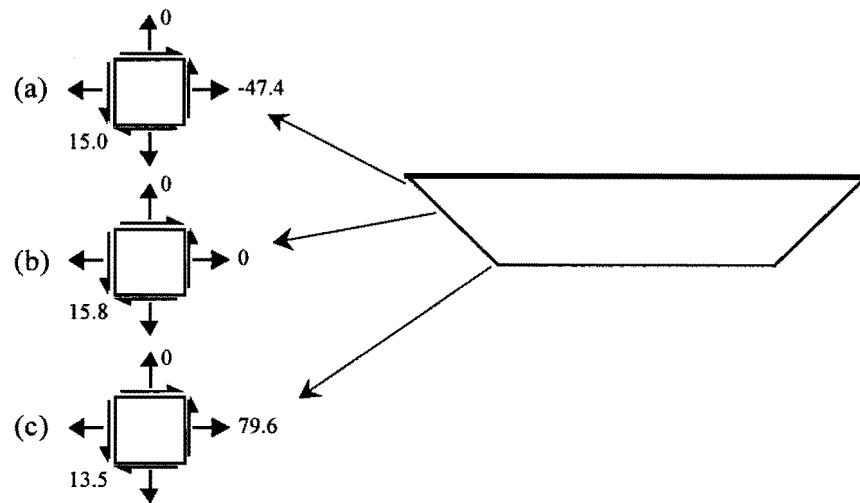

Figure 6
11. A designer is checking for yielding in the web of the bridge analysed in Examples Paper 2/1, question 9. She calculates the state of stress at the centre of the span due to self-weight and the off-centre load of 1500 kN . The results of her calculation at three positions are shown in Figure 6 (all results are in N/mm^2).